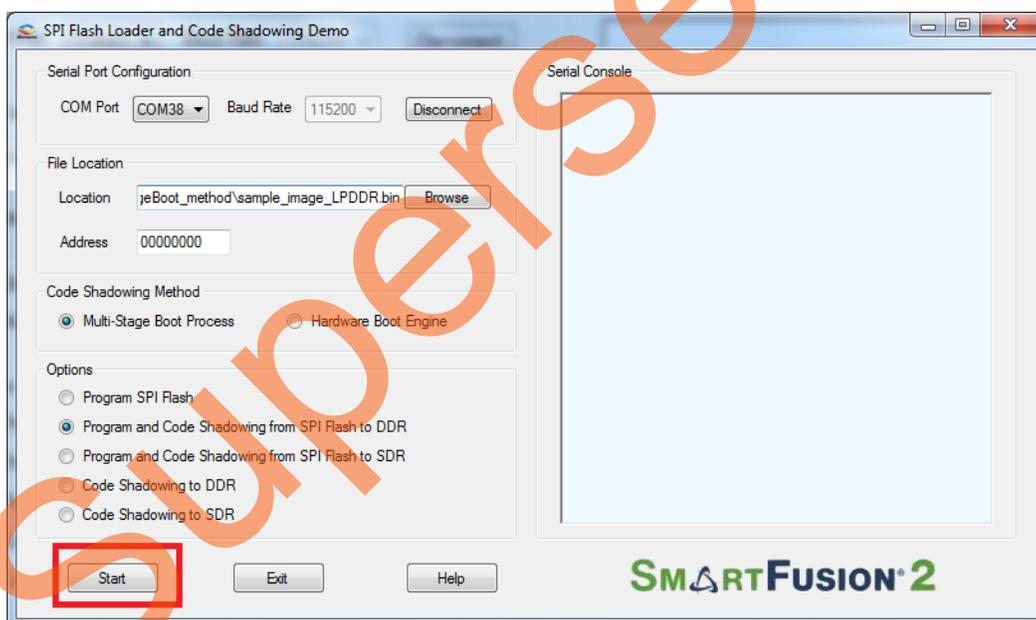

Figure 15 • Starting the Demo
10. Click **Start**, as shown in Figure 15 to load the executable image into SPI flash.